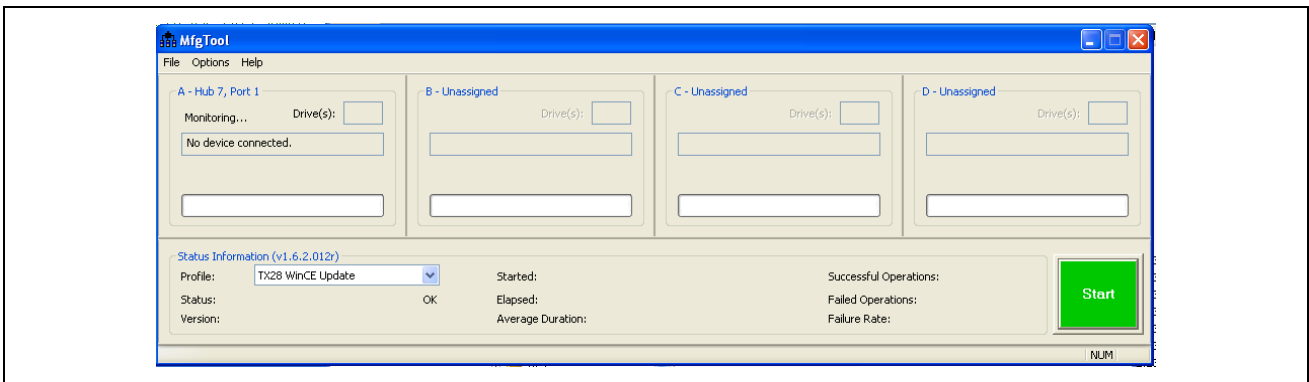

Figure 7 MfgTool Main Screen
- 9 If the loading of the Manufacturing Tool is successful, the dialog shown in Figure 7 is displayed.